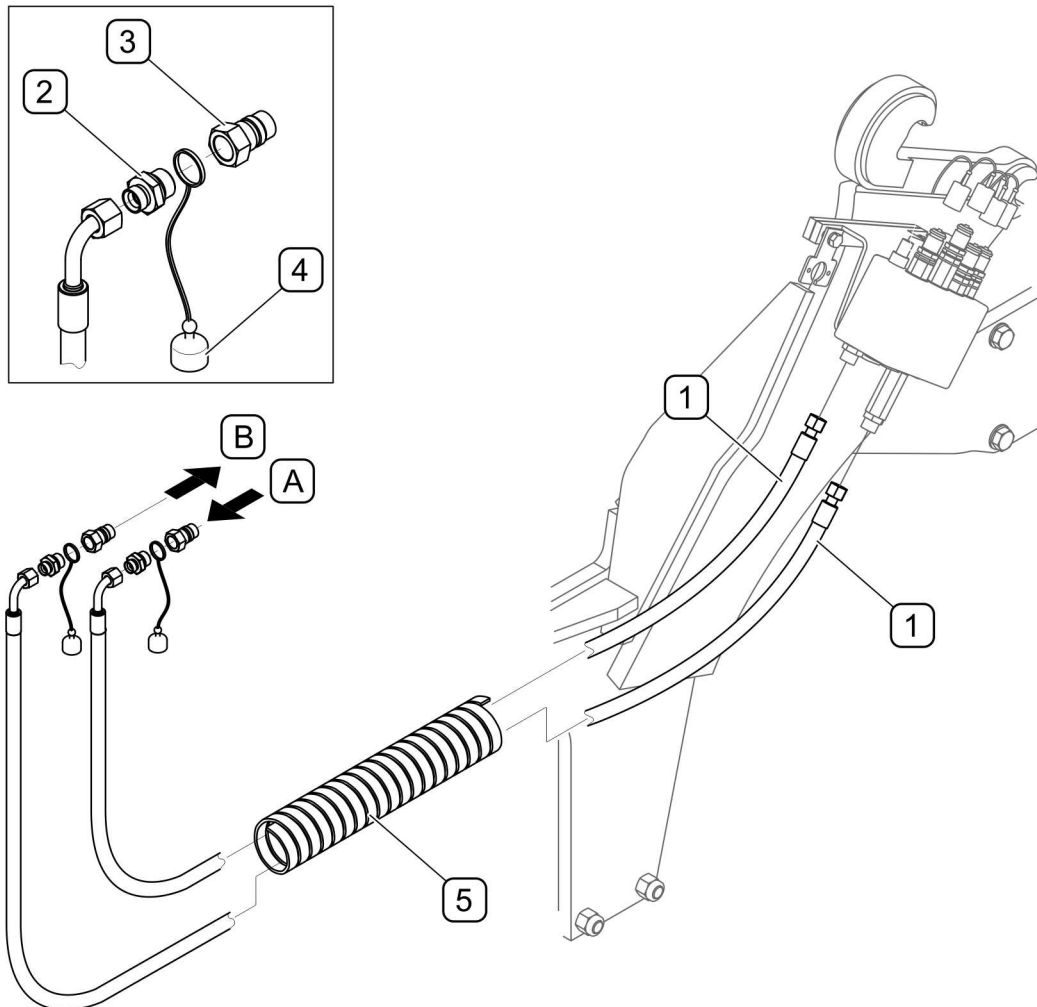

FIGURE 4.5. Connecting the distributor to the tractor's hydraulic system
(1) - hydraulic hose 210N-05020200; (2) - body of the GE15LREDOMDCF coupler;
(3) - quick coupler plug NV 12 GAS M; (4) - plug cap; (5) - SGX-50 spiral hose, L = 1500 mm
Connect the loader control distributor (FIGURE 4.5) with the hoses (1) to the rear pair of tractor hydraulic quick couplers supplied by the hydraulic section of the so-called "Latch" in the on position. The spiral hose (5) should be placed on the hydraulic conduits (1) where they pass over the drive system.